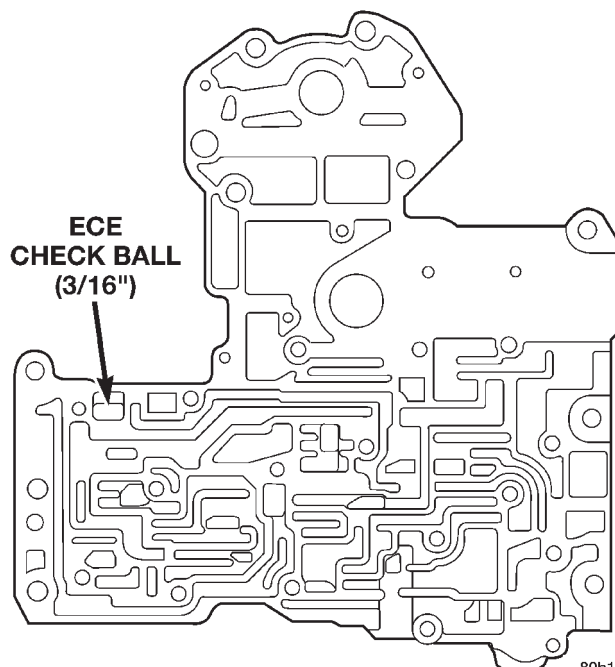

Fig. 64 ECE Check Ball
(32) Remove the ECE check ball from the transfer plate (Fig. 64). The ECE check ball is approximately 4.8 mm (3/16 in.) in diameter.
(3) Install the ECE check ball into the transfer plate (Fig. 64). The ECE check ball is approximately 4.8 mm (3/16 in.) in diameter.